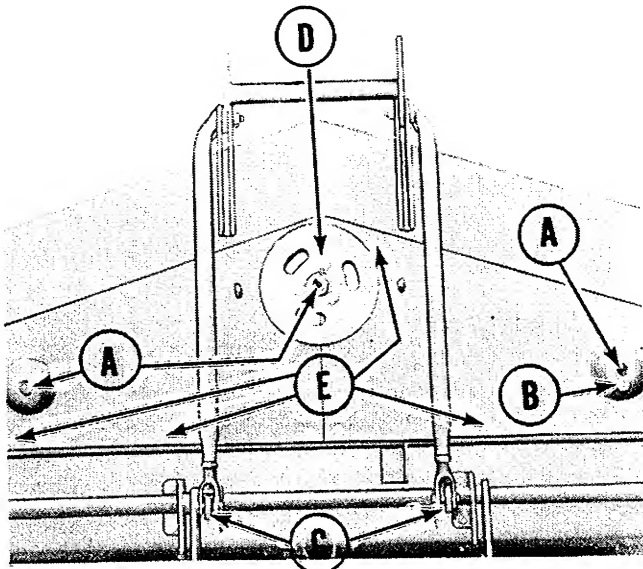

Figure 14. Mower deck viewed from above.
See figure 14. Each of the 3 grease fittings (A) should be given about 5 shots of general purpose automotive grease. This can easily be done without removing the mower from the tractor. The metal plugs (B) must be removed to grease the outside fittings. A small screwdriver can be used to pry them out. **DO NOT OVER LUBRICATE THE MOWER EXCESS GREASE AND OIL MAY GET ON THE BELTS AND CAUSE SLIPPAGE.**
1. See figure 14. Remove the spring clips and pins at (C) and raise the lift arms out of the way.
2. Remove the three capscrews (D) and remove the mower drive pulley.
3. Remove the capscrews (E) and remove the belt covers from the mower deck.
8. See figure 14. Replace the belt covers and capscrews (E).
9. Replace the mower drive pulley and the three capscrews (D). The capscrews should be tightened to 20 foot pounds torque.
10. Place the mower lift arms in position and install the pins and spring clips at (C).